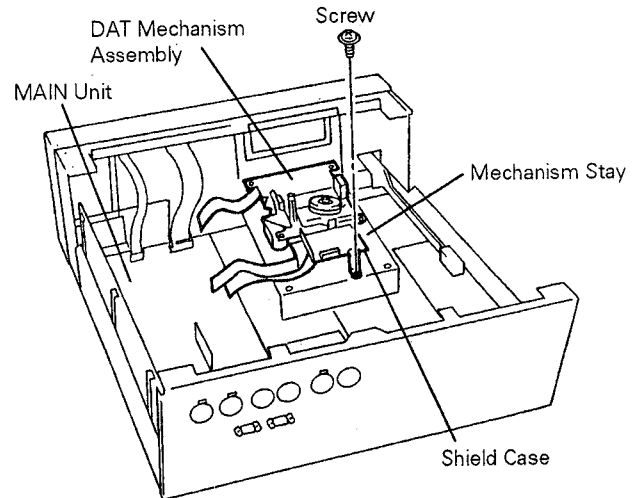

Fig. 3
3. Place the DAT mechanism assembly so onto the mechanism stay that the motor pulley at the lower surface does not come into contact with other parts, and then fix the shield case of the DAT mechanism assembly with screws. (Refer to Fig. 3.)